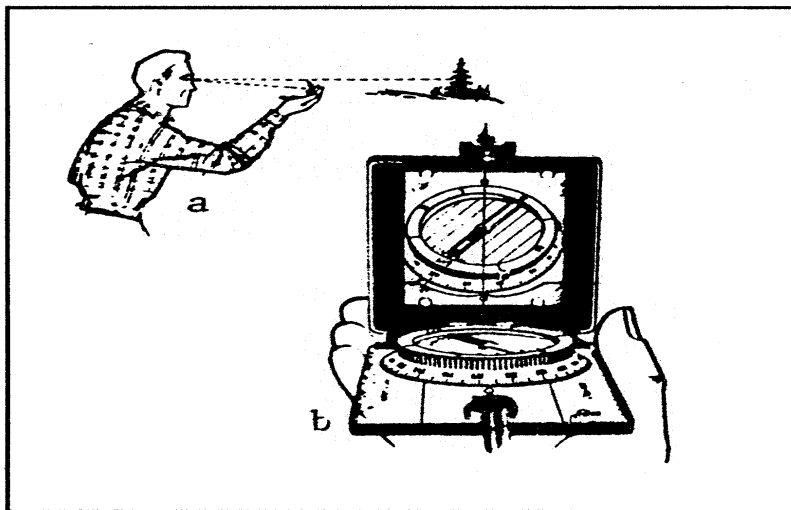

Figure 6.7 Sighting Method of Taking a Bearing
- i) Hold the compass at eye level and adjust the cover to approximately 45° so that the mirror reflects a top view of the compass dial. See Figure 6.7.